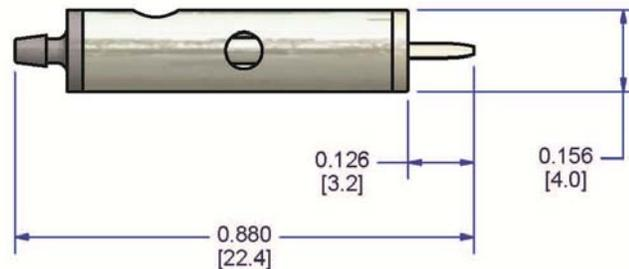

Figure 1 - Physical Dimensions of MJ-AB-01 (in inches)
- Dimensions for the MJ-AB-01 device are shown in Figure 1.